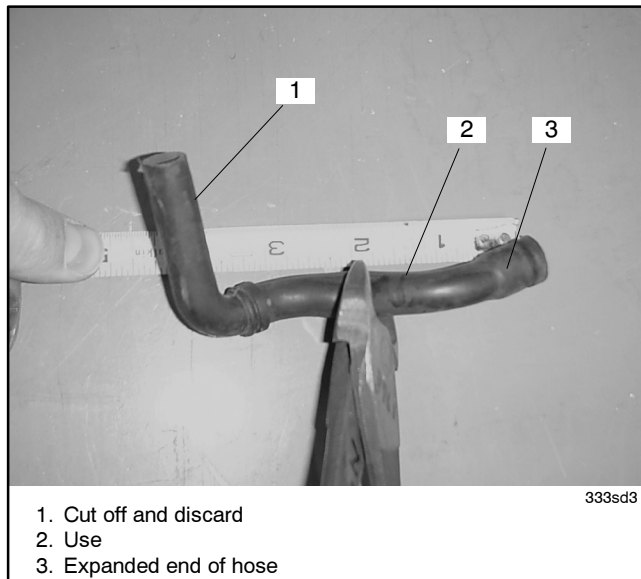

Figure 7 Cutting Off the Rubber Breather Hose
- 4.4 Cut off the rubber breather hose two inches from the engine end. See Figure 7.